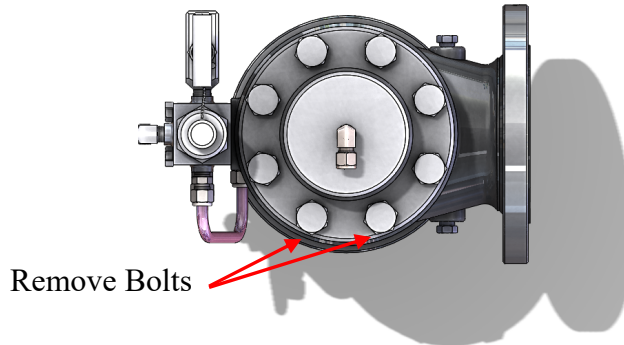

Figure 62: Bolted Bonnet - Remove Bonnet Bolts
3. Remove the two bonnet bolts where the accessory mounting bracket is going to be located. See Figure 62.